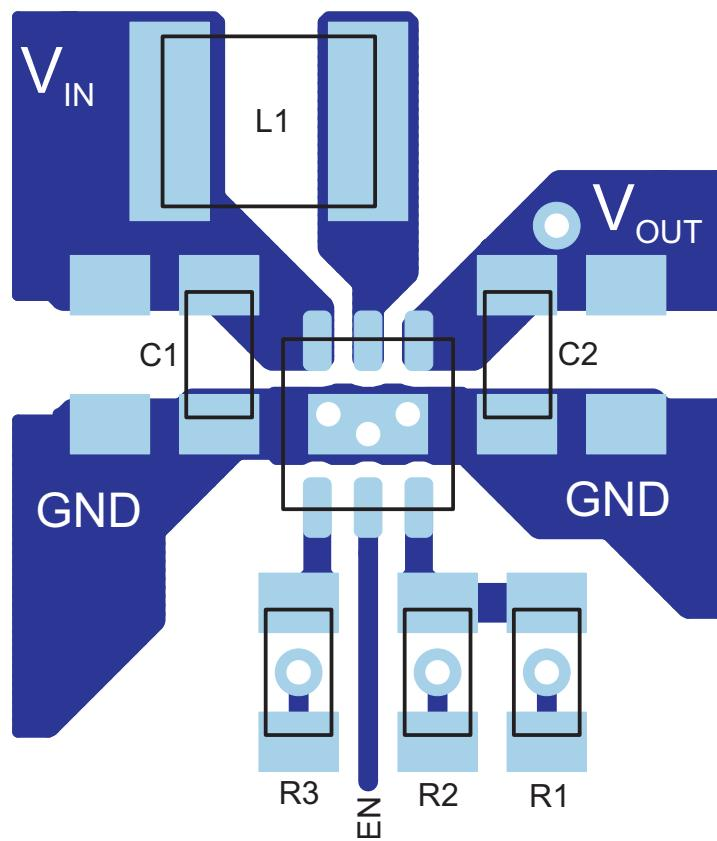

图 25. PCB Layout Suggestion
- The feedback divider should be placed as close as possible to the control ground connection. To lay out the control ground, short traces are recommended as well, separated from the power ground traces. This avoids ground shift problems, which can occur due to superimposition of power ground current and control ground current. See 图 25 for the recommended layout.